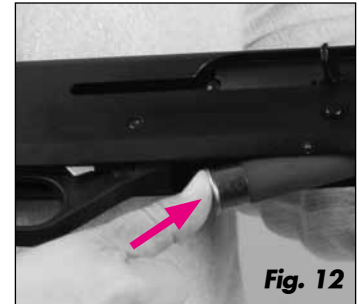

Fig. 12
2. Rotate the gun so you can access the bottom of the receiver. With the muzzle pointed in a safe direction, insert the shells into the bottom of the receiver (Fig. 12), pushing up into the shell carrier arm and forward into the magazine tube until it disappears completely into the magazine tube and is held in place by the carrier latch.